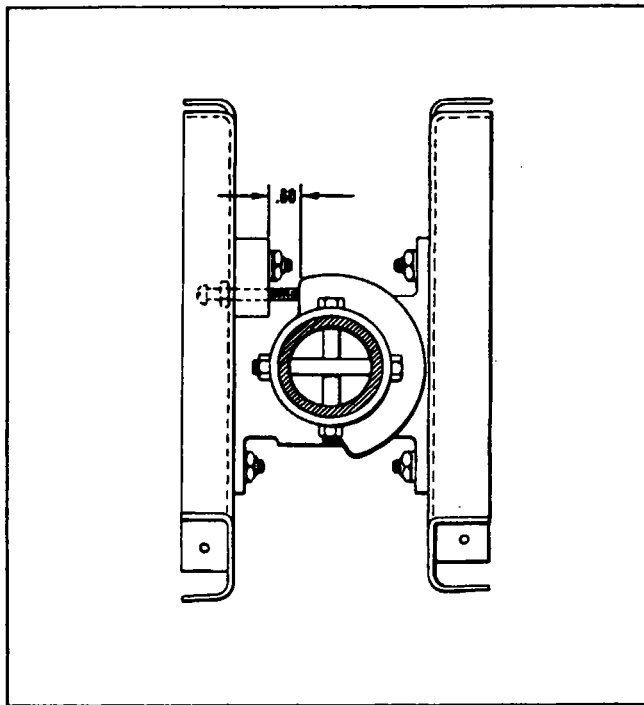

Figure 5-14. Flap Step Adjustment
- c. To adjust the flap up stop and step lock, loosen the jam nut of the right torque tube stop screw, located in the floor opening along the outer end of the flap torque tube, and turn the stop screw to obtain approximately 0.60 of an inch between the stop fitting and the bearing block as measured along the top side of the screw. (Refer to Figure 5-14.) It may be necessary to loosen the adjustment screw of the left stop.